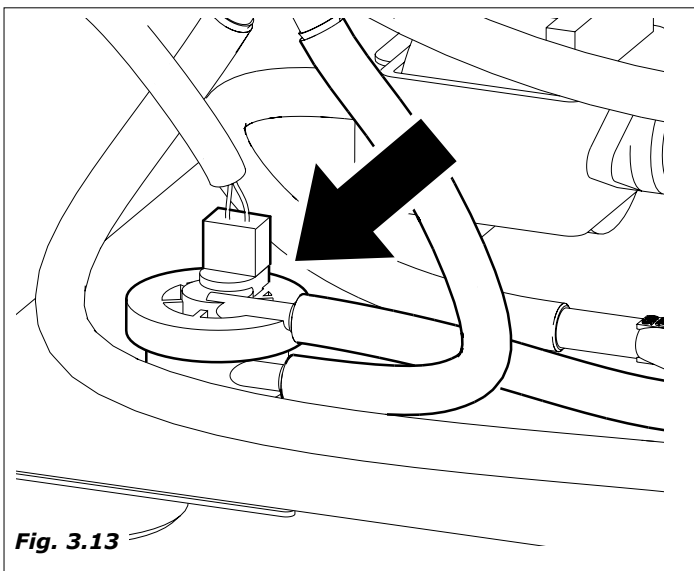

Fig. 3.13
- the pump that dispenses the quantity of programmed water and that is controlled by a specific electronic device, (volume meter), withdrawing the water from the coffee boiler (Fig.3.13).